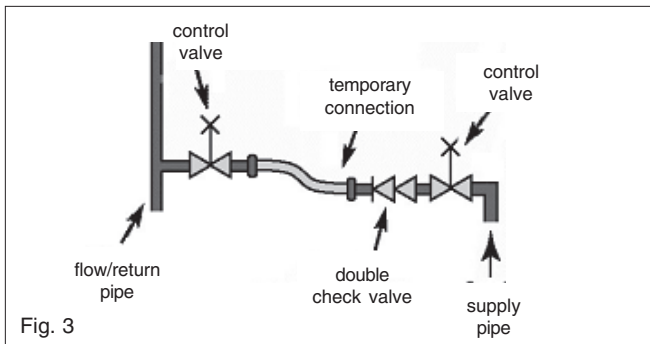

Fig. 3
**3.1 HOW TO TOP-UP THE SYSTEM PRESSURE (fig. 3 & 4)**
- Locate the filling valve connections (usually beneath the boiler, see fig. 3).